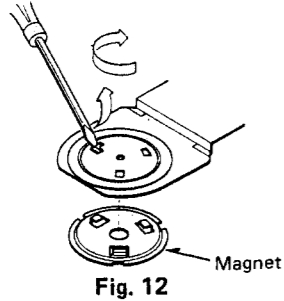

Fig. 12
4. To remove the magnet of disc clamper, raise the claw of magnet fixing plate and turn it clockwise. [Fig. 12]